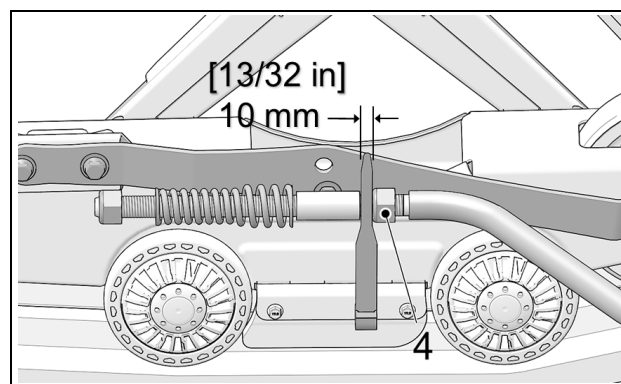

Figure 10
- Set nut (4) to obtain a distance of 10 mm between nut and stabilizing arm guide as shown on Figure 10.